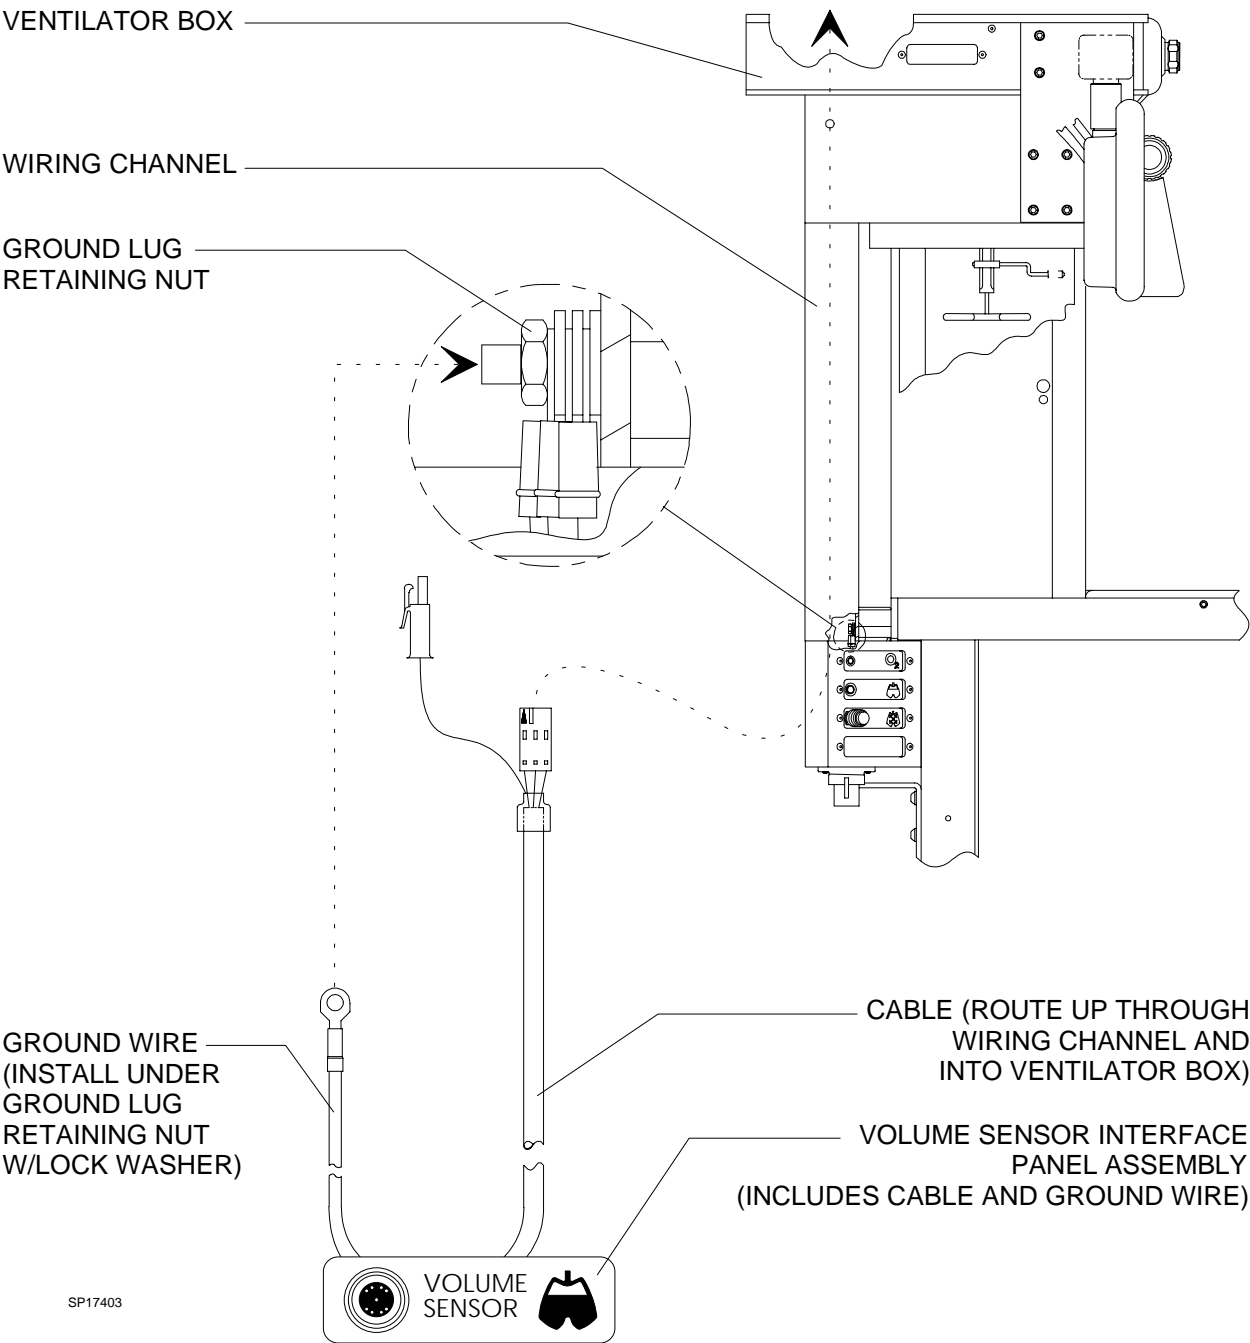

Figure 3. Volume Sensor Interface Cable Installation
8. Take the new volume sensor interface panel assembly and feed the connector end of the cable up through the back of the interface housing and wiring channel up into the ventilator box. See Figure 3.
10. Install the ground wire from the new interface panel in the same manner as the original (see Figure 3) and tighten the ground lug retaining nut.